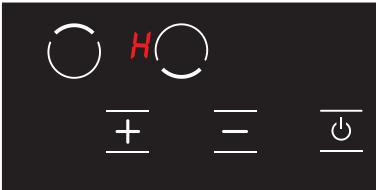

Figure 13
3. If any hob is still hot after 20 seconds, **W** symbol is displayed until the temperature of the relevant hob becomes lower than +60 °C. (see Fig. 13) No icon is displayed after the stove is turned off if the relevant hob is not hot.